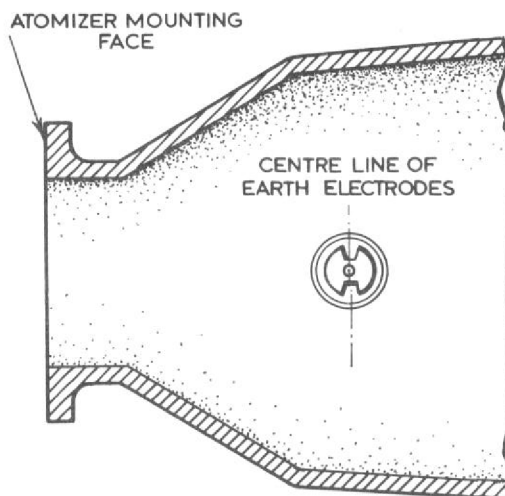

Fig.7 Orientation of igniter plug.
- (2) Position the gasket on the plug body, then insert the body with the earth electrodes positioned at right-angles to the starter axis as shown in fig.7.
- (3) Position the plug cap, orientated as noted in para. 35 (3), on the body and secure with the bolts and tabwashers.
- (4) Torque tighten the bolts to the specified figure (Table 2) and lock by bending up the tabwashers.
- (5) Assemble the cable connector to the igniter plug and fully tighten.
- (6) Using wire, Table 1 item 6, lock the cable connector to the plug.
- (7) Refit access panels on inner skin of air intakes.
- (8) Thoroughly examine the engine to ensure that nothing has dropped into the engine and remove all tools, etc. from the air intakes.